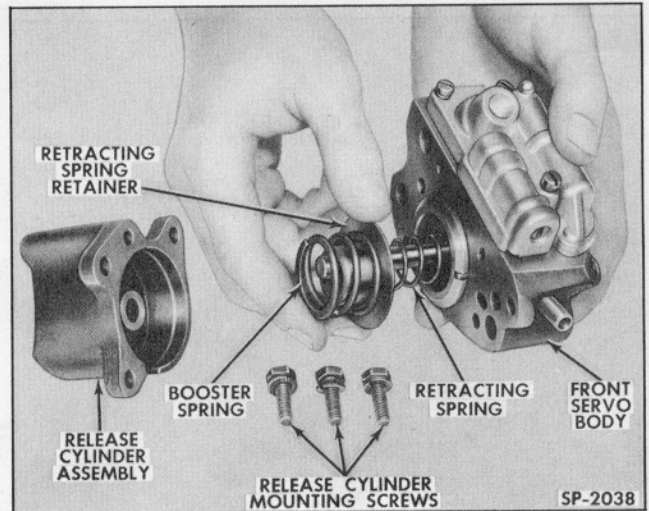

Fig. 22-Disassembling Front Servo Release Cylinder
2. Remove front servo release cylinder (Fig. 22).
3. Remove booster spring, retracting spring retainer and retracting spring (Fig. 22).
12. The front servo apply piston locating pin should fit snugly in the bore and should not extend beyond the machined face of the front servo apply piston (Fig. 22).